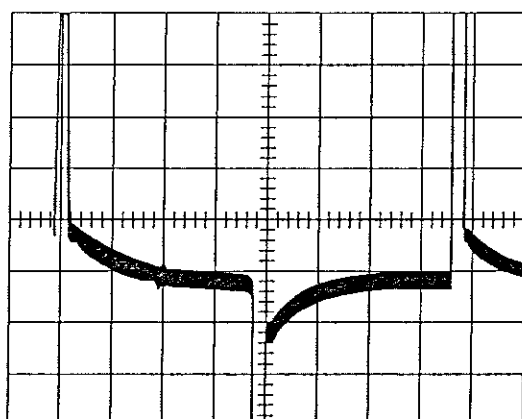

Figure D.6 Undercompensated Pole/Zero (Square Wave)
7. Reduce the scope sensitivity to 50 mV/div. To prevent scope overload, clamp the AMP OUT signal by pressing the P/Z INSP switch. With the AMP OUT signal clamped, adjust the P/Z as illustrated in Figure D.6.